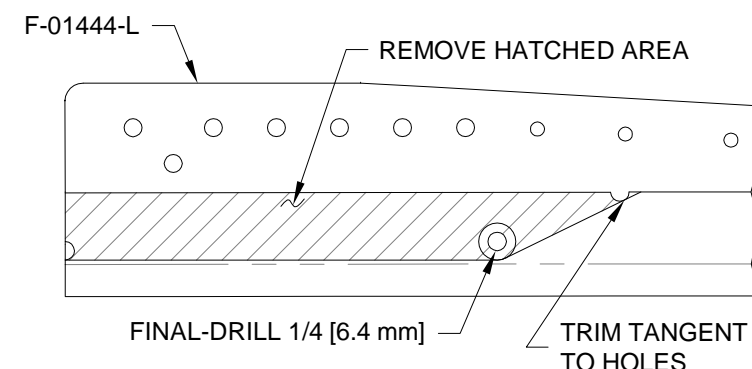

FIGURE 1: TRIM F-01444-L LONGERON
Step 1: Final-Drill and trim the F-01444-L Longerons as shown in Figure 1 and Figure 3.